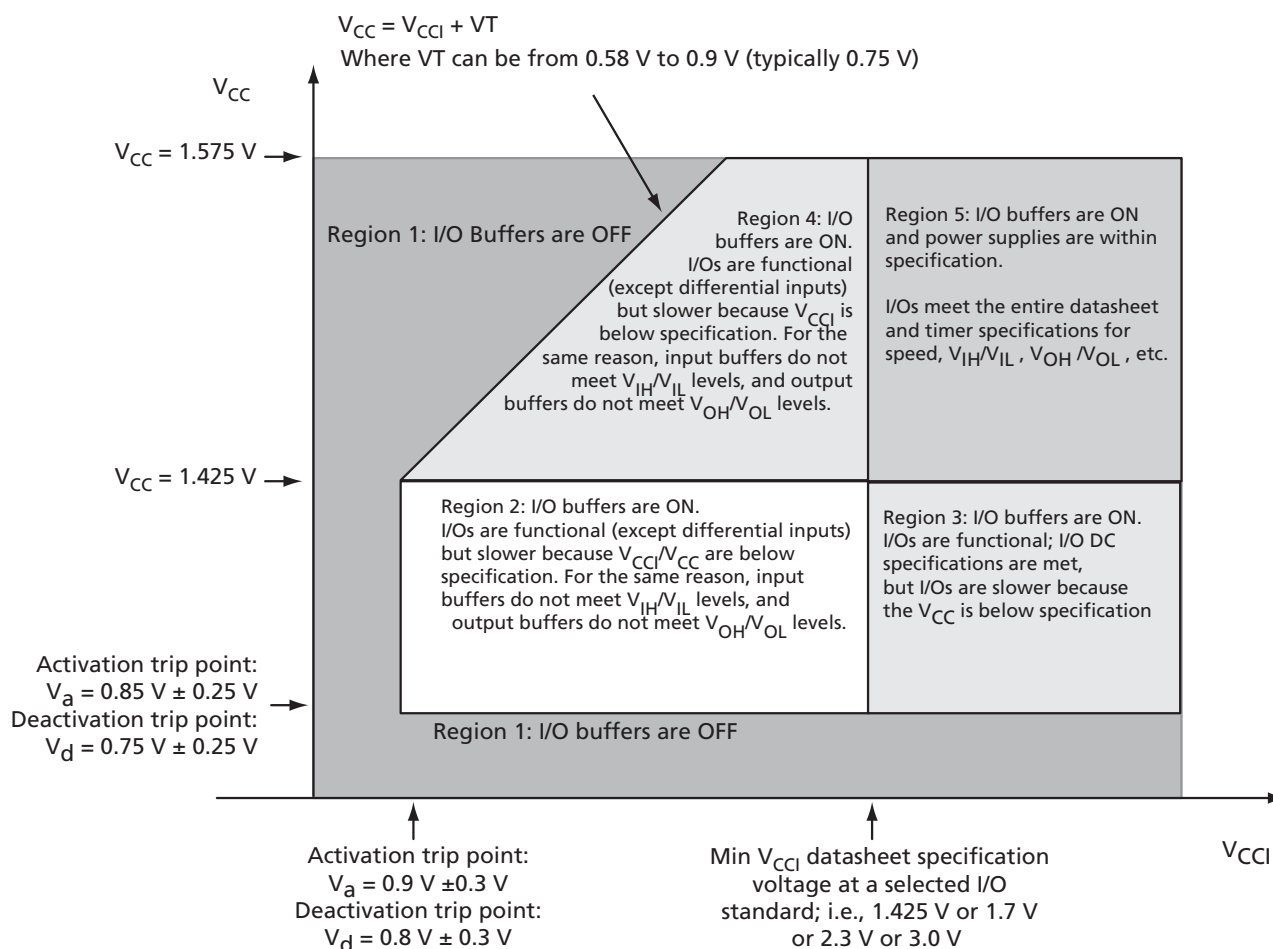

Figure 3-1 • I/O State as a Function of V_{CCI} and V_{CC} Voltage Levels
Sophisticated power-up management circuitry is designed into every Fusion device. These circuits ensure easy transition from the powered off state to the powered up state of the device. The many different supplies can power up in any sequence with minimized current spikes or surges. In addition, the I/O will be in a known state through the power-up sequence. The basic principle is shown in Figure 3-1.
1. V_{CC} and V_{CCI} are above the minimum specified trip points (Figure 3-1).